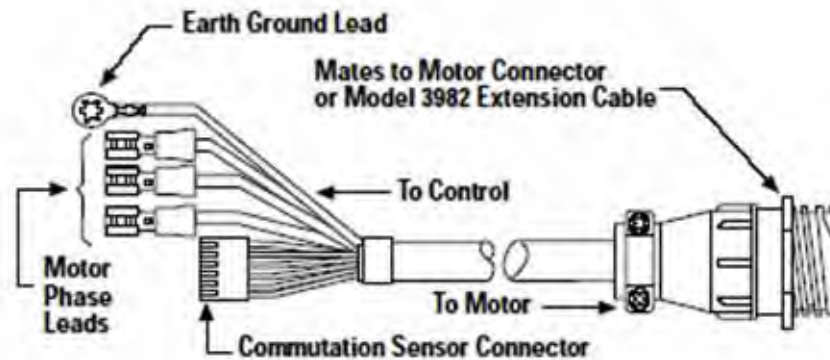
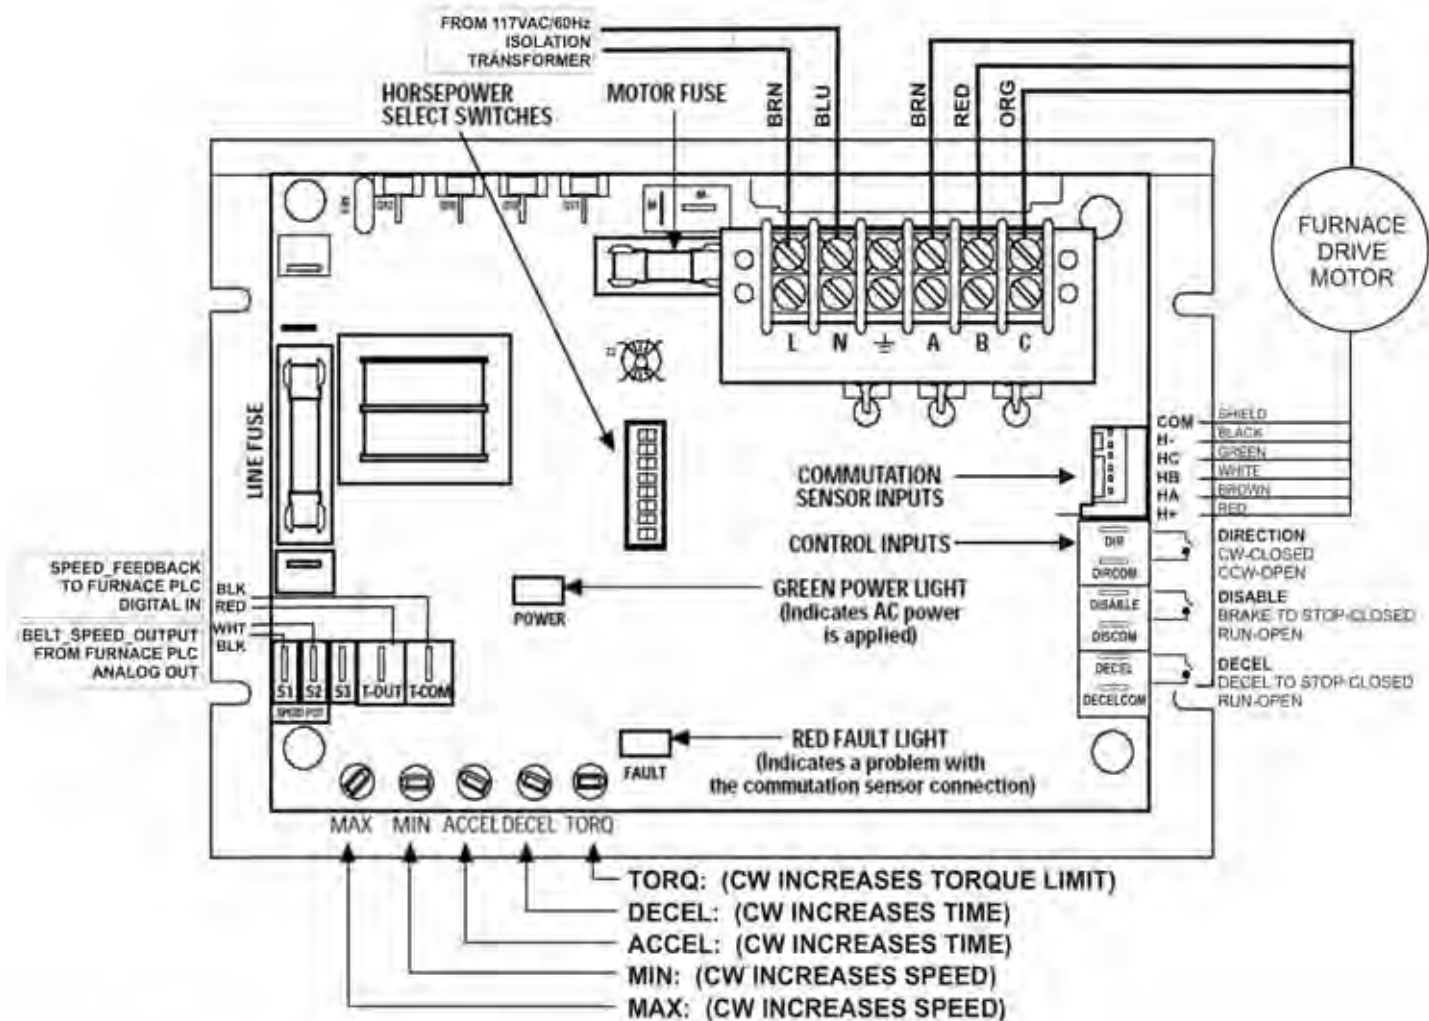

Figure 3 - Model 3983 Cable Assembly
Figure 4 - Control Circuit Board Detail
**Cable Assembly:** The Model 3983 Cable Assembly, shown in Figure 3, is designed to simplify the electrical connections to the ABL-3911C Control. One end of the cable which connects to the motor is terminated with a circular type connector. The other end which connects to the control has a six-pin rectangular connector, three individual motor phase leads with quick disconnects, and an earth ground lead. This cable assembly must be modified for installation on furnace drive applications (see Page 5).
**Horsepower (DIP Switch) Settings:** Figure 4 shows a Horsepower Select switch on the main control board which contains eight switch levers numbered 1 through 8. The chart in Table 1 shows the proper DIP switch settings for various Bodine furnace drive motor types.
**Commutation Sensor Connections:** The commutation sensor leads are prewired in the Model 3983 cable assembly and terminated in a six-pin connector (Figure 3). There is a corresponding "Commutation" connector on the main control board (Figure 4). Mate the polarized cable connector to the "Commutation" connector. The connectors can only mate one way.
**Motor Phase Connections:** If installing a new cable, locate the barrier terminal block mounted to the bracket above the main control board and make the following modifications. Refer to Figure 4:
**Line Fuse:** The location of line fuse (F1) is shown in Figure 4. It should always be replaced with a fuse of the same type and rating. Its rating can be determined by referring to the chart in Table 1.
**Motor Fuse:** The location of motor fuse (F2) is shown in Figure 4. The fuse rating will vary with the size of the motor used. To determine the proper fuse rating, locate the first four digits of your motor's type number on the motor nameplate. Find the same four digits in the chart in Table 1 to determine the fuse size. The ABL-3911C and ABL-3921C are supplied with the fuses listed in Table 1.
**Power Input:** Refer to Figure 4. Locate the barrier terminal block mounted to the bracket above the main control board and connect AC power to the barrier terminal block as follows:
5. If the motor does not operate, first observe if the green POWER light and red FAULT light are on (refer to Figure 4 for location). Then disconnect the AC power to the control and check all connections and fuses. If a fuse is blown and the motor is not locked (stalled) or overloaded, do not replace the fuse.
Refer to Figure 4 for the trim potentiometer locations and approximate initial settings. If you need to readjust the control for your specific applications, proceed as follows:
The lowest MAX trim potentiometer setting (fully counterclockwise) corresponds to 60% of rated speed and the highest MAX trim potentiometer setting (fully clockwise) corresponds to approximately 120% of rated speed. Refer to Figure 4 for trim potentiometer location and settings. Adjustment of the MIN and MAX trim potentiometers may have to be repeated several times to arrive at the desired speeds.
**Torque (Current) Limiting Adjustment:** The TORQ trim potentiometer (Figure 4) has been calibrated to limit current to 200 to 250% of the motor's rated current, assuming the DIP switches are set properly. The motor's torque output can be reduced to zero or stall torque. Turn the TORQ trim potentiometer counterclockwise to decrease the torque and clockwise to increase the torque.
**Acceleration Adjustment :** Adjusting the ACCEL trim potentiometer (See Figure 4) counterclockwise decreases the motor's acceleration time down to a minimum of approximately 0.2 seconds. A clockwise adjustment increases the rate up to a maximum of approximately 10 seconds.
**Deceleration Adjustment:** Adjusting the DECEL trim potentiometer (See Figure 4) counterclockwise decreases the motor's deceleration time down to a minimum of approximately 0.2 seconds. A clockwise adjustment increases the rate up to a maximum of approximately 10 seconds.